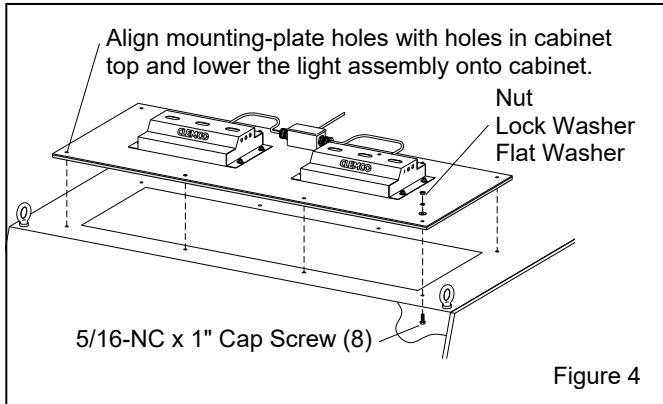

Figure 4
3.4 Turn the light assembly over, align the mounting-plate bolt holes with the holes on top of the cabinet (as shown in Figure 4), and lower the assembly into place. Insert 5/16-NC cap screw from inside the cabinet